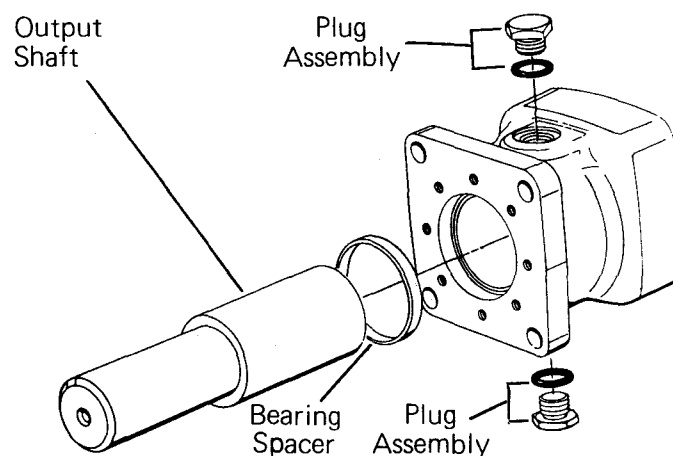

Figure 10
- 1 Place bearing housing on a smooth, flat surface. Install 2 plug assemblies, see Figure 10.